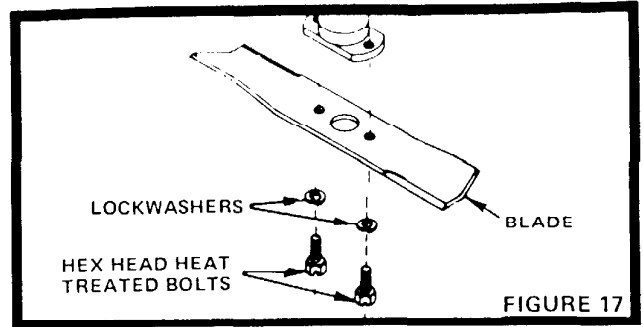

FIGURE 17
1. Remove the two Hex Head Bolts and Lockwashers (Fig. 17).